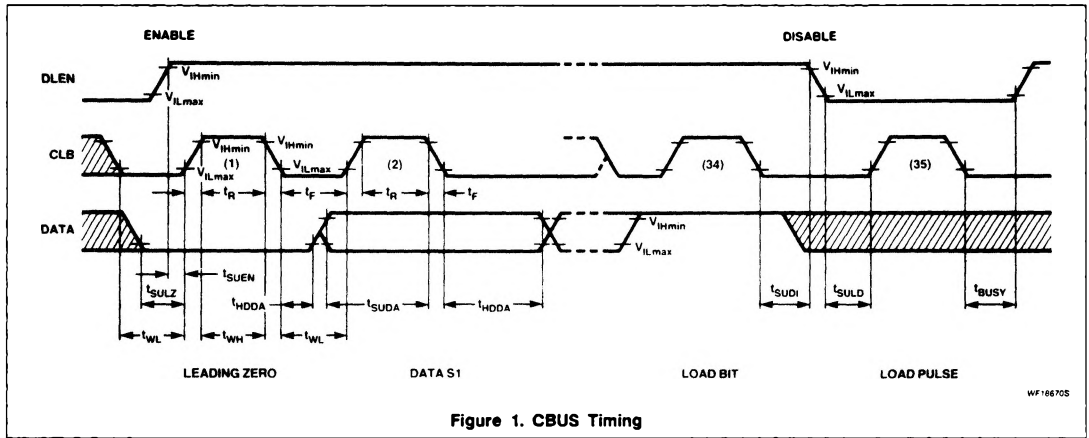

Figure 1. CBUS Timing
1. All timing values are referred to V_{IHmin} and V_{ILmax} (see Figure 1). If external resistors are used in the bus lines (see Figure 7), an extra time constant has to be added.